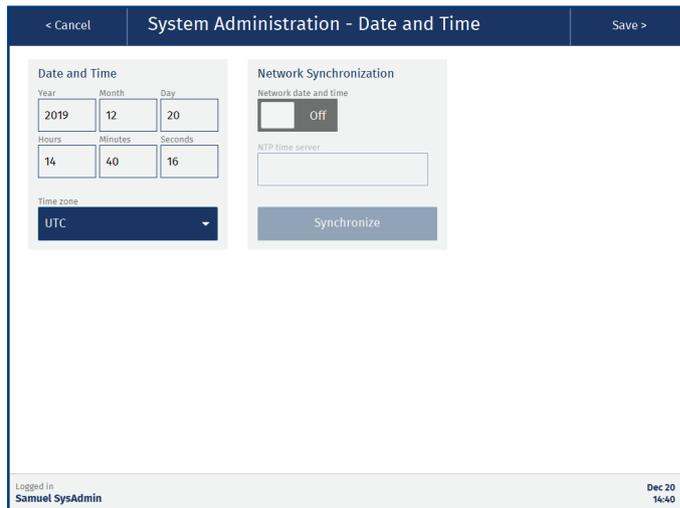

Figure 28. The Date and Time view.
The date and time can be set in the **Date and Time** view (see Figure 28) by users with system administrator access.
3. Enter the address to the time server in the **NTP time server** text box (see Figure 28). Please contact your IT department for more information.